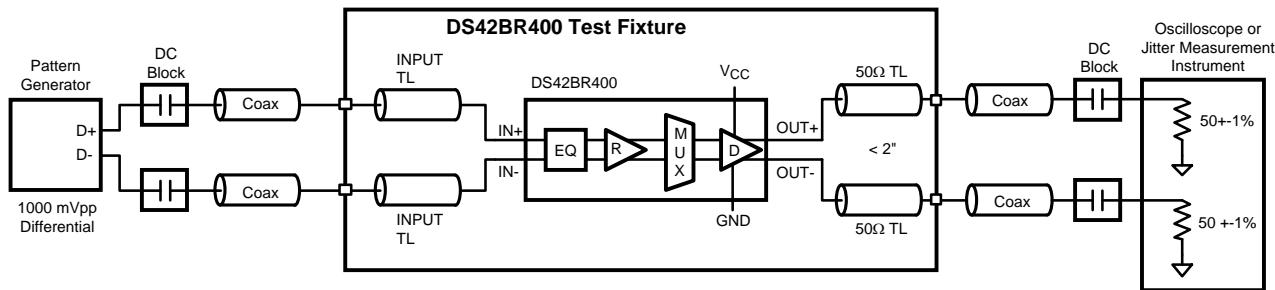

Figure 7. AC Test Circuit
The high speed inputs are self-biased to about 1.3V and are designed for AC coupling allowing the DS42BR400 to be directly inserted into the datapath without any limitation. The ideal AC coupling capacitor value is often based on the lowest frequency component embedded within the serial link. A typical AC coupling capacitor value ranges between 100 and 1000nF, some specifications with scrambled data may require a larger coupling capacitor for optimal performance. To reduce unwanted parasitics around and within the AC coupling capacitor, a body size of 0402 is recommended. Figure 7 shows the AC coupling capacitor placement in an AC test circuit.
- (4) t_{SKO} is the magnitude difference in propagation delays between all data paths on one device. This is channel-to-channel skew. t_{SKPP} is the worst case difference in propagation delay across multiple devices on all channels and operating under identical conditions. For example, for two devices operating under the same conditions, t_{SKPP} is the magnitude difference between the shortest propagation delay measurement on one device to the longest propagation delay measurement on another device.
- (5) Device output random jitter is a measurement of random jitter contributed by the device. It is derived by the equation $\text{SQRT}[(\text{RJ}_{\text{OUT}})^2 - (\text{RJ}_{\text{IN}})^2]$, where RJ_{OUT} is the total random jitter measured at the output of the device in ps(rms), RJ_{IN} is the random jitter of the pattern generator driving the device. Below 400 Mbps, system jitter and device jitter could not be separated. The 250 Mbps specification includes system random jitter. Please see Figure 7 for the AC test circuit.
- (6) Device output deterministic jitter is a measurement of the deterministic jitter contribution from the device. It is derived by the equation $(\text{DJ}_{\text{OUT}} - \text{DJ}_{\text{IN}})$, where DJ_{OUT} is the total peak-to-peak deterministic jitter measured at the output of the device in ps(p-p). DJ_{IN} is the peak-to-peak deterministic jitter at the input of the test board. Please see Figure 7 for the AC test circuit.
- (7) This parameter is specified by design and/or characterization and is not tested in production.